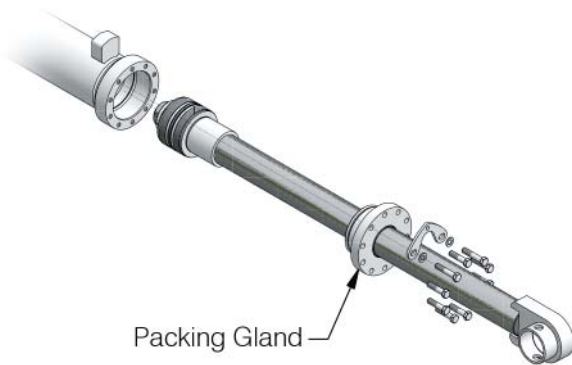

Figure 2 Remove Packing Gland
1. Remove the capscrews and washers from the packing gland, and remove the packing gland from the barrel. See Figure 2.